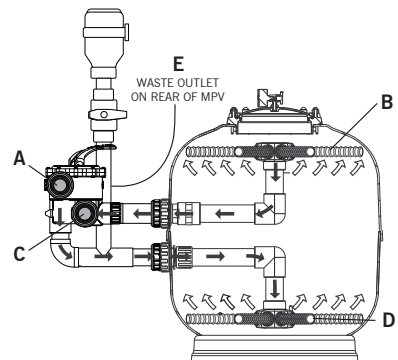

Figure 8.
1) FILTER: Incoming water from the pond enters the MPV at point (A) (see figure 8). The water enters the vessel at point (D) then flows upwards through the K1 Micro filter media to the top exit bar (B). The filtered water is returned through the multi-port valve at point (C) and back into the pond.
2) BACKWASH: This is the position the multi-port valve should be in for cleaning the K1 Micro filter media. With the valve in this position, water flow is reversed through the filter bed so that the water flow is directed to the top of the unit (B) and exits the unit at (D) and goes out to the waste line (E).
3) RINSE: This is the position the multi-port valve should be in for agitating the K1 Micro filter media. With the valve in this position, air (supplied by the air blower) is used to agitate the filter media. Later on in the cleaning process, water is used to rinse the K1 Micro and exit to waste (E).
4) WASTE: This is the position the multi-port valve should be in to allow water to by-pass the filter bed and drain to waste (E). With the multi-port valve in this position, the water flow is directed straight to waste by-passing the unit. This function can be used to lower the water level or for vacuuming your pond without soiling the filter.